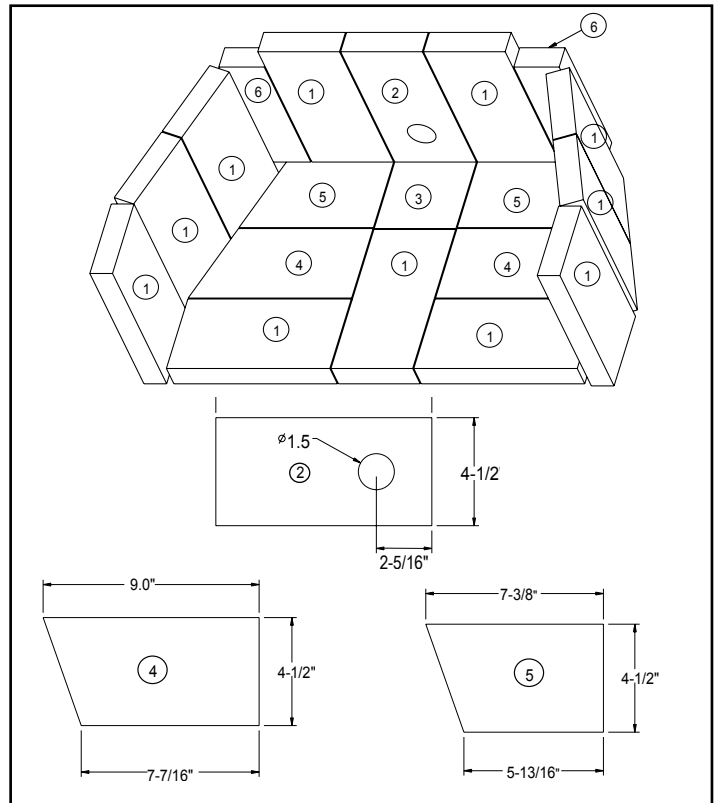

Figure 20.1
3. With a 3/16 Allen wrench, remove the front manifold tube retainer bolts on the air channel under the end of the front tube. **See Figure 20.1.** **NOTE:** Soak the bolts with penetrating oil for at least 15 minutes before trying to remove it.